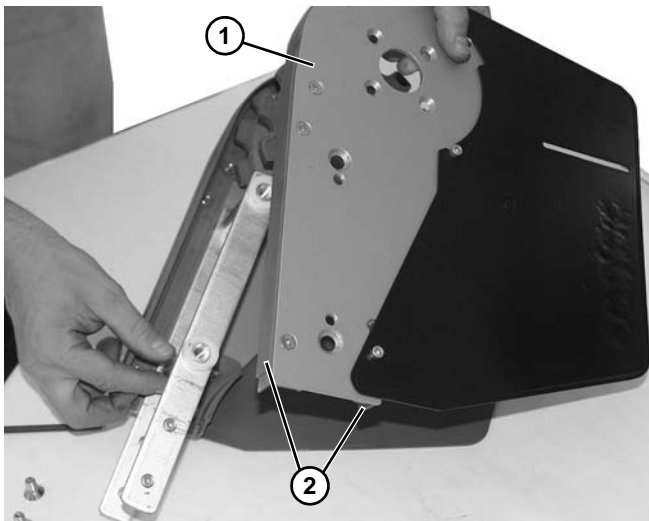

Figure 51
5. Remove the head plate (Figure 51, item 1) from the drive end.
6. To remove upper and lower retaining guides (Figure 51, item 2), see “Retaining Guide Replacement” on page 20.